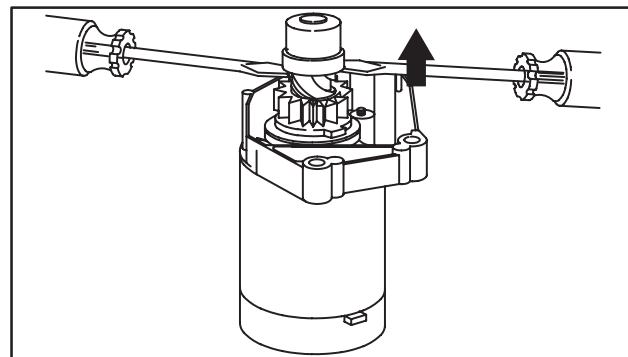

Fig. 17 – Removing Cap Assembly
- Carefully pry the plastic cap off the retaining cup using two screwdrivers, Fig. 17.